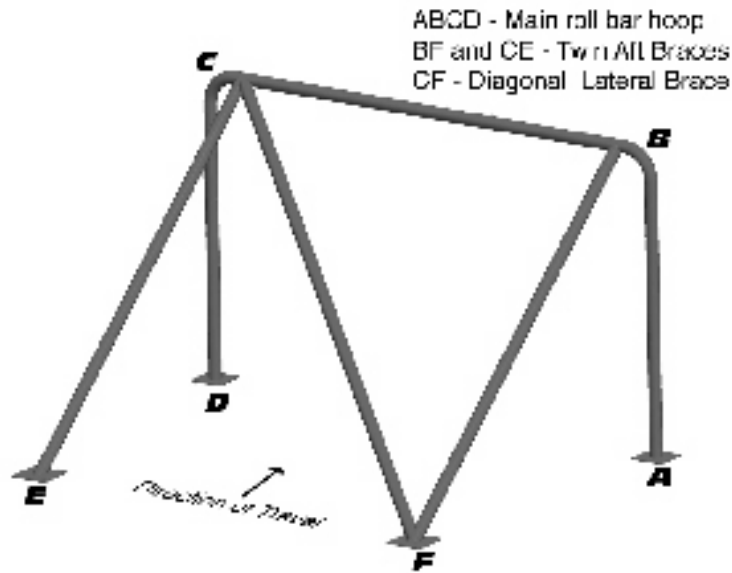

FIGURE 3
B. All welding must be of the roll bar hoop be such that the minimum outside width measured at a point four (4) inches below the uppermost point is twelve (12) inches. Whenever possible the roll bar hoop should start from the floor of the car and, in the case of tube frame construction, be attached to the chassis tubes by means of gussets or sheet metal webs in order to distribute the loads.
- A. Roll bar hoops must have two (2) fore/aft braces with tubing of dimensions at least equal to that required for the main hoop itself. Diagonal lateral bracing of equal dimension tubing must be installed to prevent lateral distortion of the hoop. (In most cases, a lateral brace from the bottom corner of the hoop on the side to the top corner of the hoop on the other side is sufficient). The following alternatives are permitted. Although installing the diagonal lateral brace in the main hoop is the strongest (and hence most preferable) alternative, there may be instances where such an installation is not practical. In such situations, the installation of the diagonal brace as shown in Figure 3 will be acceptable.